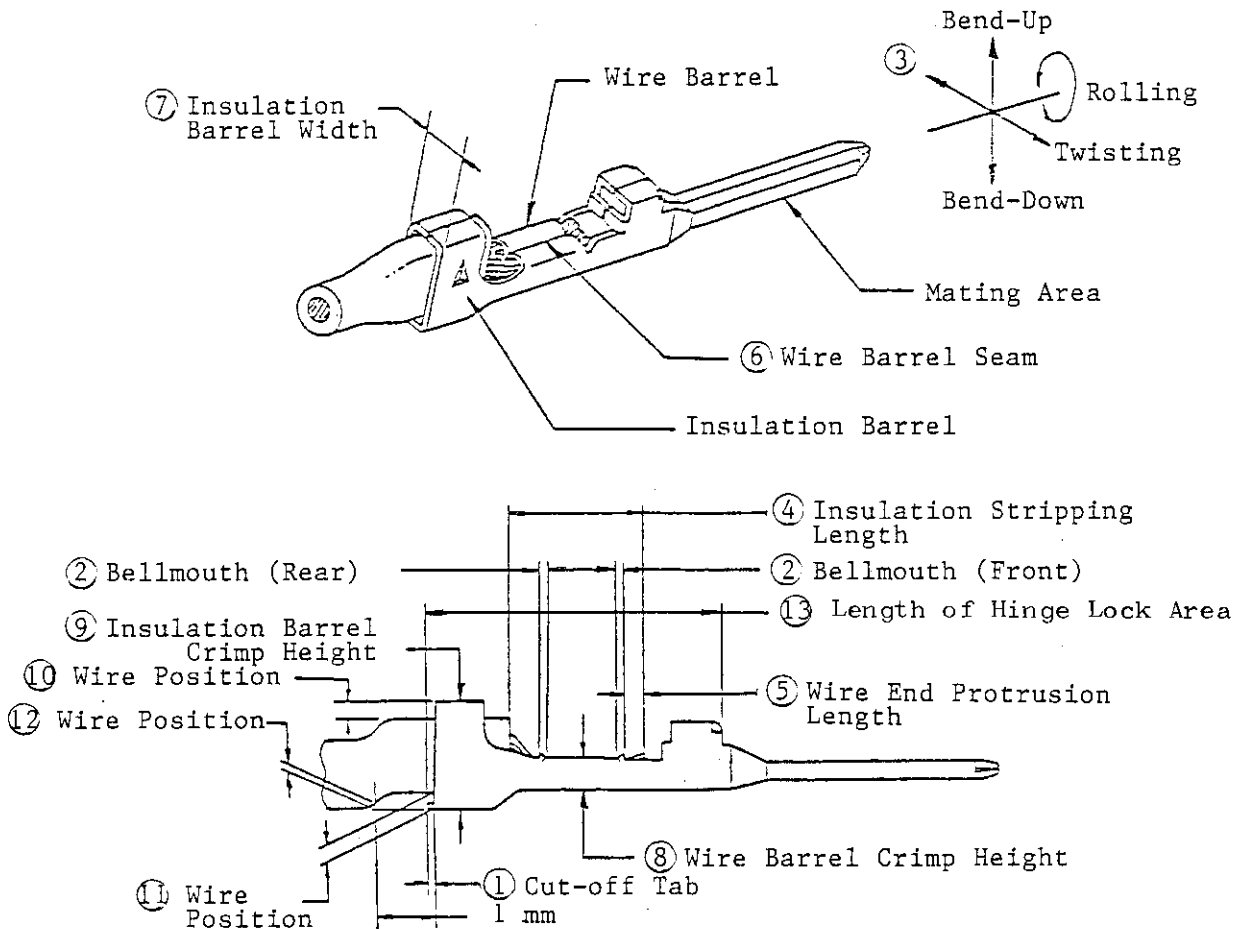

Fig.1
| 1 | Cut-off Tab | 0.25 mm max. | Fig.1 (1) |
| | | | Width (mm) | Height +0.05(mm) (Fig.1 (8)) | Disk | Width (mm) | Height (mm) (Fig.1 (9)) | Disk (Ref.) | |
| | | | Width (mm) | Height (mm) (Fig. 1 (8)) | Crimp Symbols | Width (mm) | Height (mm) (Fig. 1 (9)) | |